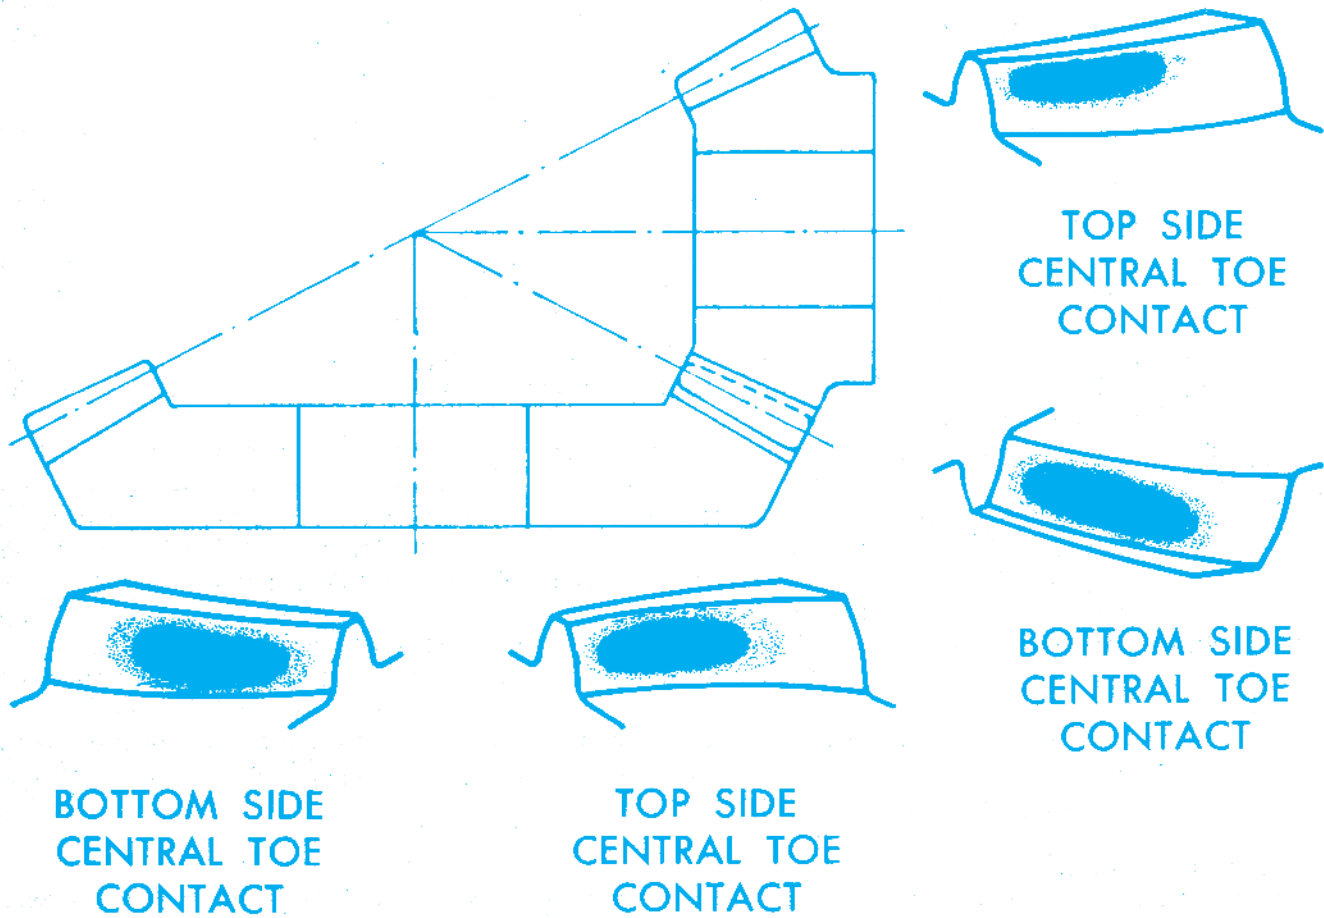

FIGURE 7
- 18.1. The tooth contact pattern must be checked and corrected, if needed, before the backlash is corrected. The correct tooth contact for a gear set is shown in Fig 7. If the tooth contact is correct, proceed to step 19.0.